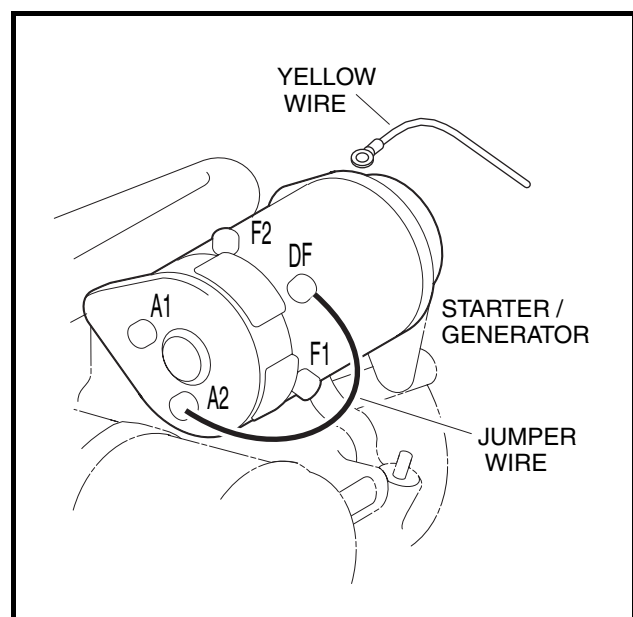

Figure 11-16 Jumper Wire Ground – DF to A2
3. Disconnect the yellow wire from the DF terminal on the starter/generator. Cover the connector on the yellow wire to make sure the yellow wire will not short to ground. Then, using a jumper wire, ground the DF terminal to the A2 terminal (**Figure 11-16, Page 11-17**).